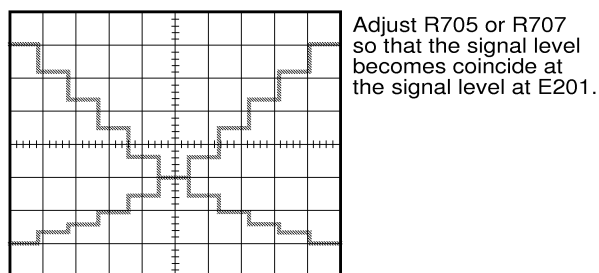

Fig. 4-6
- Adjust R705 so that signal level at E101 becomes coincides at signal level at E201 as shown in Fig. 4-6.
- Adjust R707 so that signal level at E301 becomes coincides at signal level at E201 as shown in Fig. 4-6.